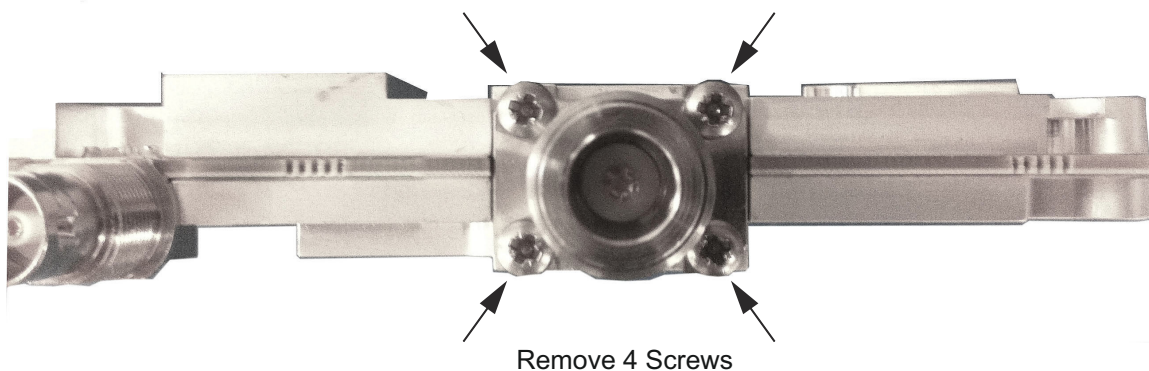

Figure 7-6. Remove 4 Screws
5. Remove the four screws attaching the N connector to the shield (Figure 7-6).